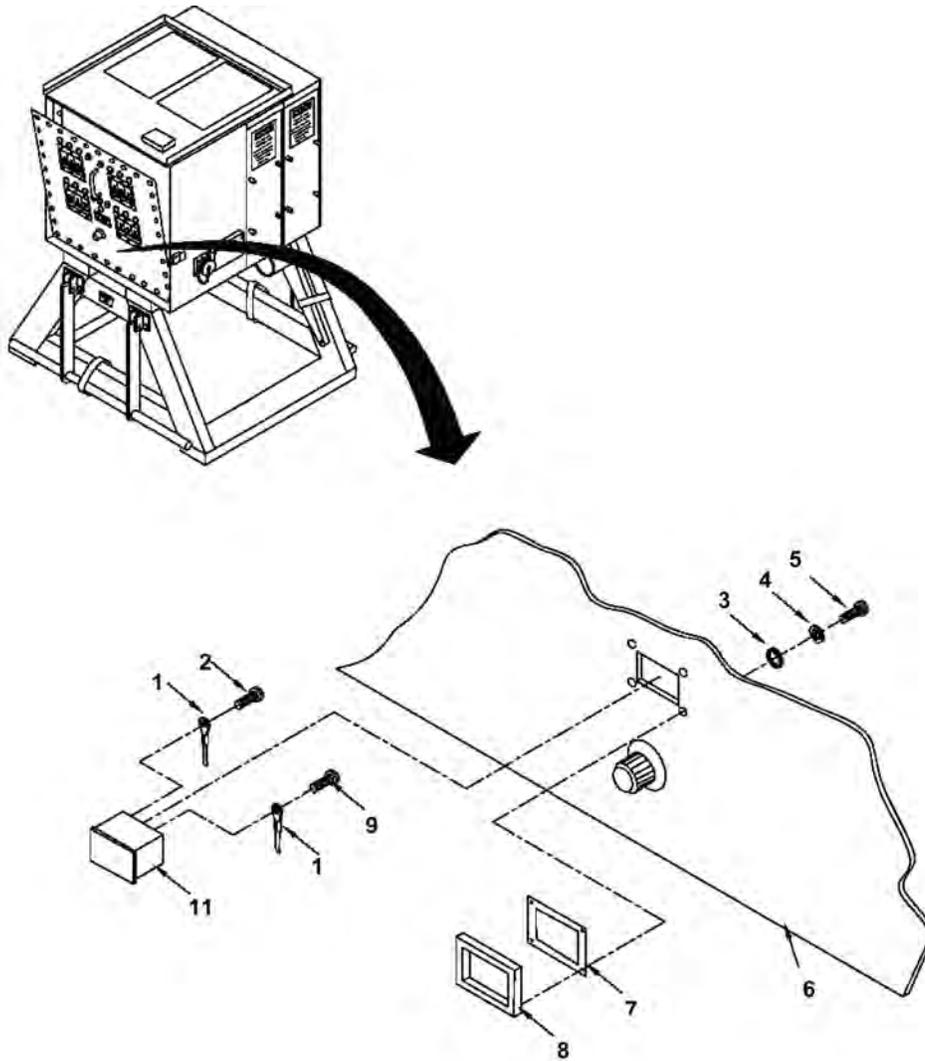

Figure 1. Voltmeter M1 (PP-8440A Only).
3. Remove four screws (Figure 1, Item 5), four lock washers (Figure 1, Item 4) and four flat washers (Figure 1, Item 3) from rear of circuit breaker panel (Figure 1, Item 6).
4. Remove bezel (Figure 1, Item 8) and gasket (Figure 1, Item 7) from front of circuit breaker panel (Figure 1, Item 6).
5. Remove meter (Figure 1, Item 11) from front of circuit breaker panel (Figure 1, Item 6).
8. Position meter (Figure 1, Item 11) in front cutout on circuit breaker panel (Figure 1, Item 6).
9. Place bezel (Figure 1, Item 8) and gasket (Figure 1, Item 7) over meter (Figure 1, Item 11) on front of circuit breaker panel (Figure 1, Item 6).
10. Secure bezel (Figure 1, Item 8) to circuit breaker panel (Figure 1, Item 6) by installing four flat washers (Figure 1, Item 3), four lock washers (Figure 1, Item 4) and four screws (Figure 1, Item 5) at rear of circuit breaker panel (Figure 1, Item 6).
11. Install one white wire (Figure 1, Item 10) with one screw (Figure 1, Item 9) and one black wire (Figure 1, Item 1) with one screw (Figure 1, Item 2) on rear of meter (Figure 1, Item 11).